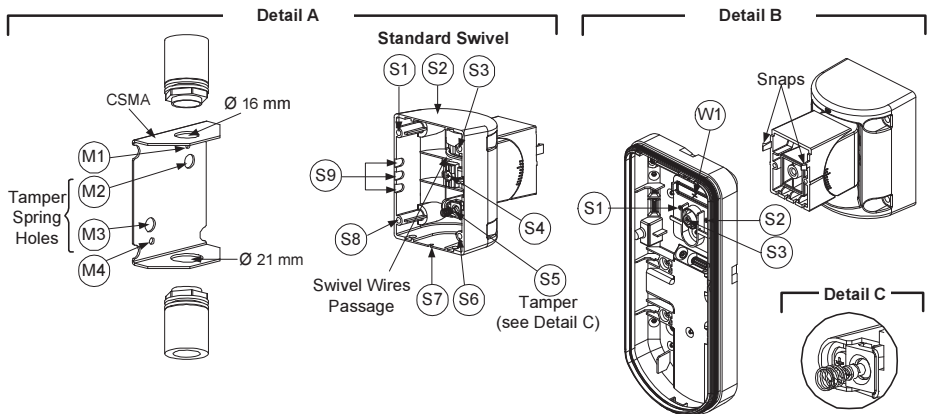

Figure 6
3. Open knockouts on external base (Figure 6, Detail B)
4. On the swivel accessory remove the required swivel cable wiring knockout S2, S7 or S9 (Figure 6, Detail A).
5. Remove back tamper from the internal base (see "Changing Back Tamper Position" paragraph) and connect it to S5 (Figure 6, Detail A) on the Standard Swivel.
- a. Insert external cable wiring through knockouts S2, S7 or S9 and extract them (including the tamper wires) through the Swivel Wires Passage (Figure 6, Detail B).
Swivel Conduit Mounting (using Conduit Metal Swivel Adaptor – CSMA, Figure 6, Detail A)
- d. Insert external cables and tamper wires from the conduit through the swivel wires passage of the swivel (Figure 6, Detail A).
7. Insert tamper wires and external cable wiring from Standard Swivel through knockout W1 on the external base (Figure 6, Detail B).